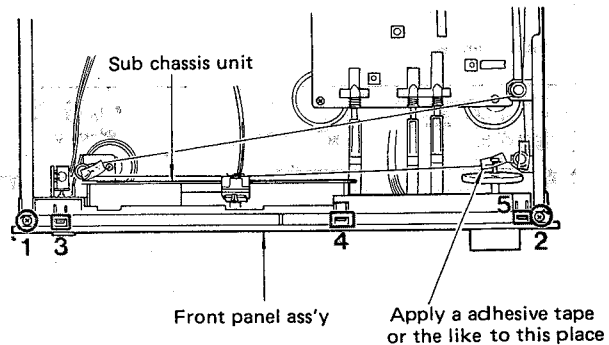
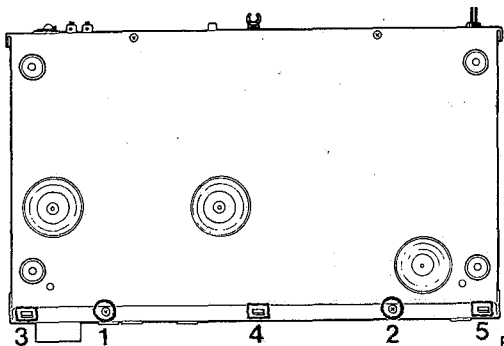

Fig. 2
Fig. 3
- c. Apply adhesive tape to the place as shown in fig. 2 so that the dial thread doesn't get out of place.
- d. Remove screws ① and ② in both fig. 2 and fig. 3.
- e. Remove hooks ③ through ⑤ in both fig. 2 and fig. 3, and then remove the front panel ass'y.